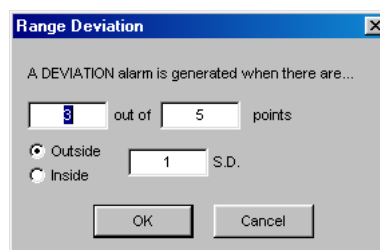
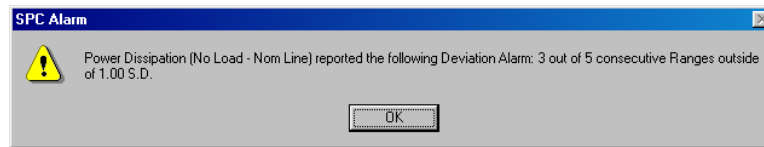
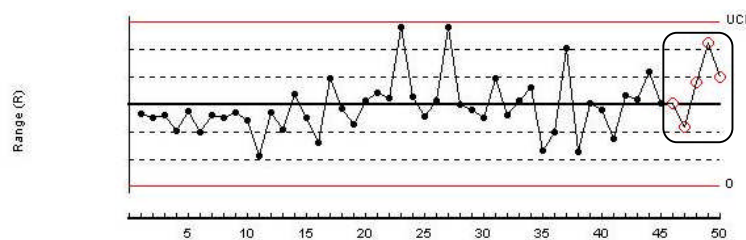

Figure 57 – The Range Deviation dialog window
Figure 58 – The QM Alarm (Range Deviation) dialog window
Figure 59 – The Range Deviation Control Chart (Range (R))
This alarm will be triggered when a set number of Data Points, in a set of Continuous Data Points are Inside/Outside the set value of Standard Deviation. Figure 57 shows an example.
Figure 58 shows the QM Alarm dialog window that opens when the values in Figure 57 are used.
When this Active Alarm is generated with the values in Figure 57, the close-up of the Measurement's Control Chart (Range (R)) graph (see The Control Chart graph & image filename, page 28) for that Measurement will appear similar to Figure 59.